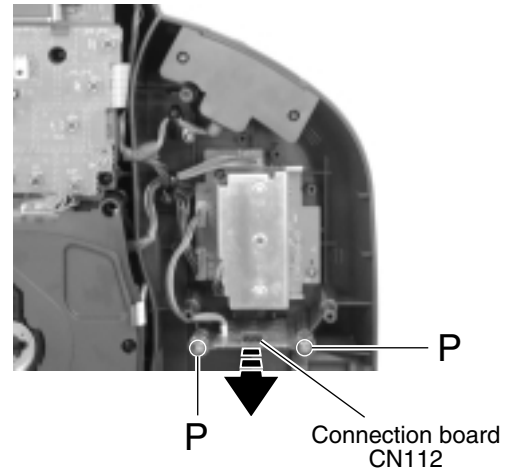

Fig.19
■ Removing the connection board (See Fig.19)